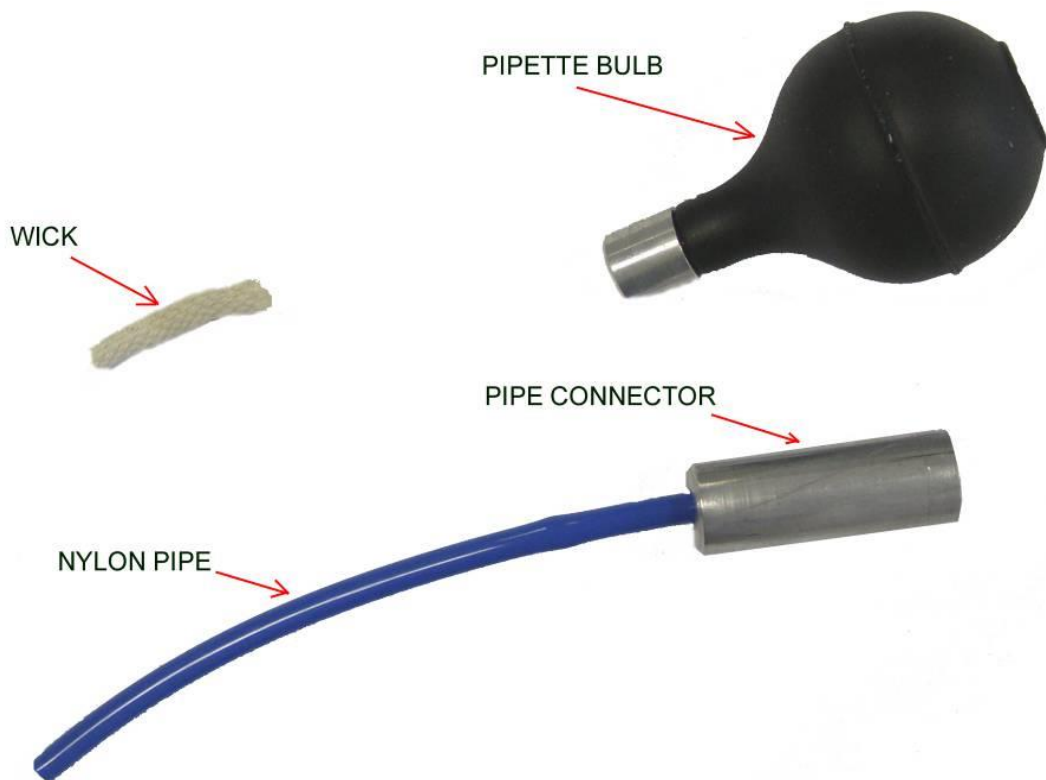

Figure 44 Smoke Tester
- a. Cut a length of wick approximately 30 mm long. Assemble the smoke tester by pushing the wick into the wick holder fitted with the pipette bulb. Press the nylon pipe into the Pipe connector (refer to Figure 44).